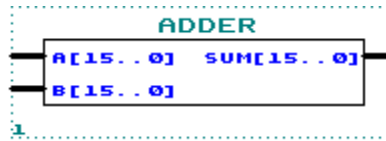

Figure 1-1.
- Remember to use the same input and output port names as shown in Figure 1-1.